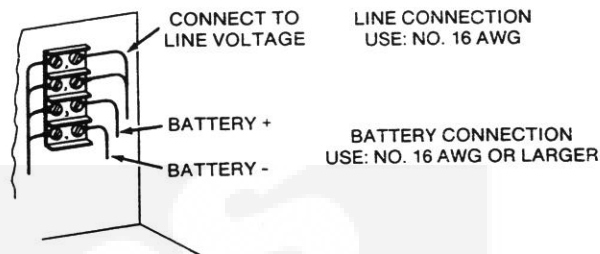

FIGURE 1. BATTERY CHARGER TERMINAL BLOCK FOR LINE AND BATTERY CONNECTIONS
3. Install lead wires (not included with charger) for the AC line voltage connections and charger to battery connections. Connect lead wires to the terminal board on the inside backplate as shown in Figure 1.